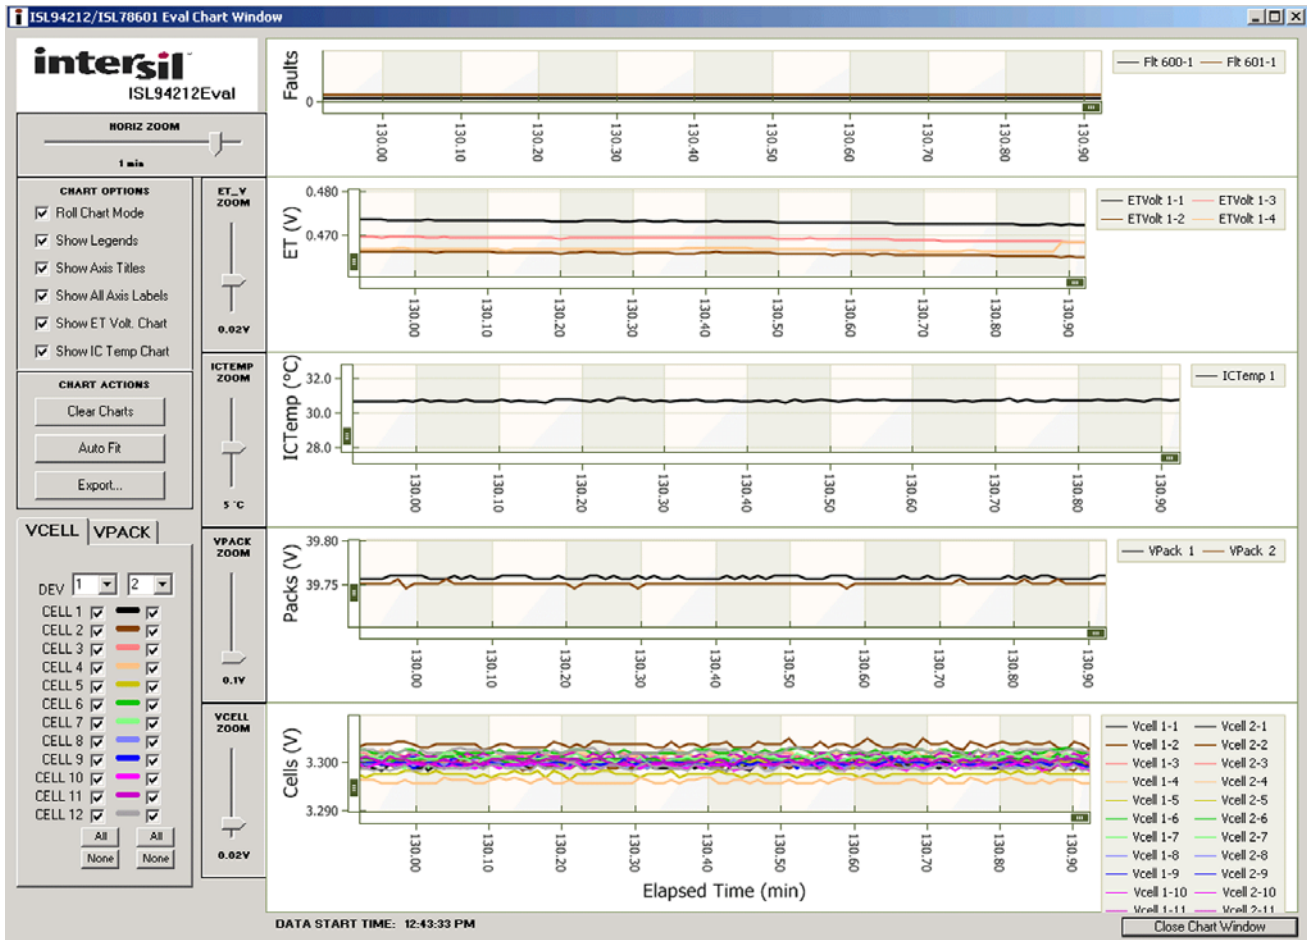

FIGURE 7. CHART WINDOW
- Step 8: Use the “Show Chart” button to view various voltages and status in real time (See Figure 7).